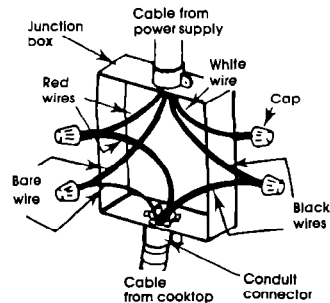

Figure 2
1. Connect the two black wires. Then connect the two red wires. See Figure 2.